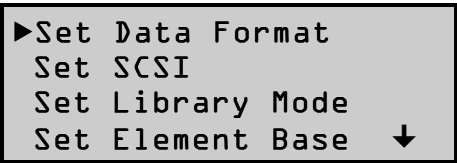

Figure 2-6 Configure Menu
3. Press the ▼ button three times to move the ► to Configure Menu, then press the **Enter** button. The display will show the Configure Menu, as shown in Figure 2-6. Note that the ↓ at the end of the fourth line means that there are additional configuration options that can be reached by scrolling with the ▼ button.
7. Press the **Escape** button repeatedly until the submenu in Figure 2-6 reappears.